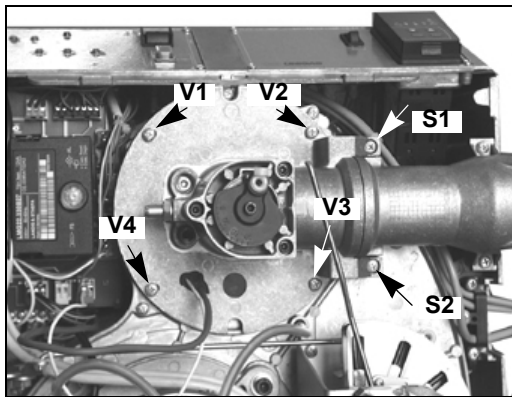

Fig. 44
- Remove, check and clean the combustion head (Fig. 44 on).
- 1 Remove the 4 screws V1, V2, V3, V4 and the couple of screws S1 and S2 (Fig. 44).